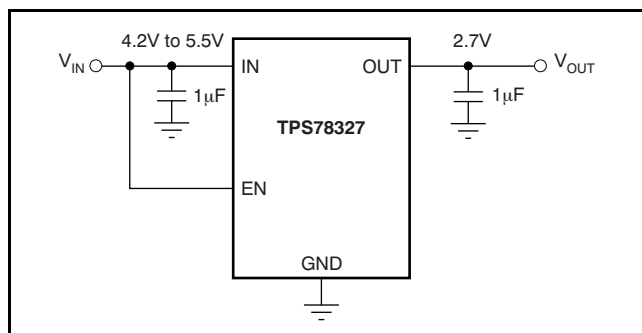

Figure 22. Circuit Showing EN Tied High when Shutdown Capability is Not Required
The enable pin (EN) is active high and is compatible with standard and low-voltage CMOS levels. When shutdown capability is not required, EN should be connected to the IN pin, as shown in Figure 22.